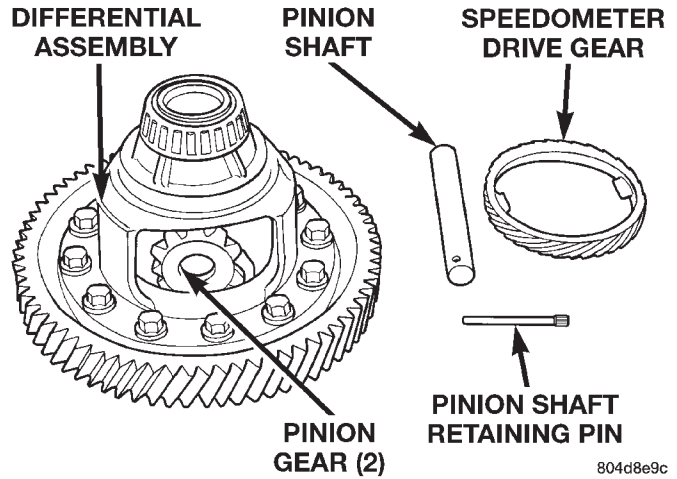

Fig. 120 Remove Pinion Gears, Side Gears, and Thrust Washers by Rotating Side Gears to Opening in Case
(3) Rotate side gears to opening in differential (Fig. 120).